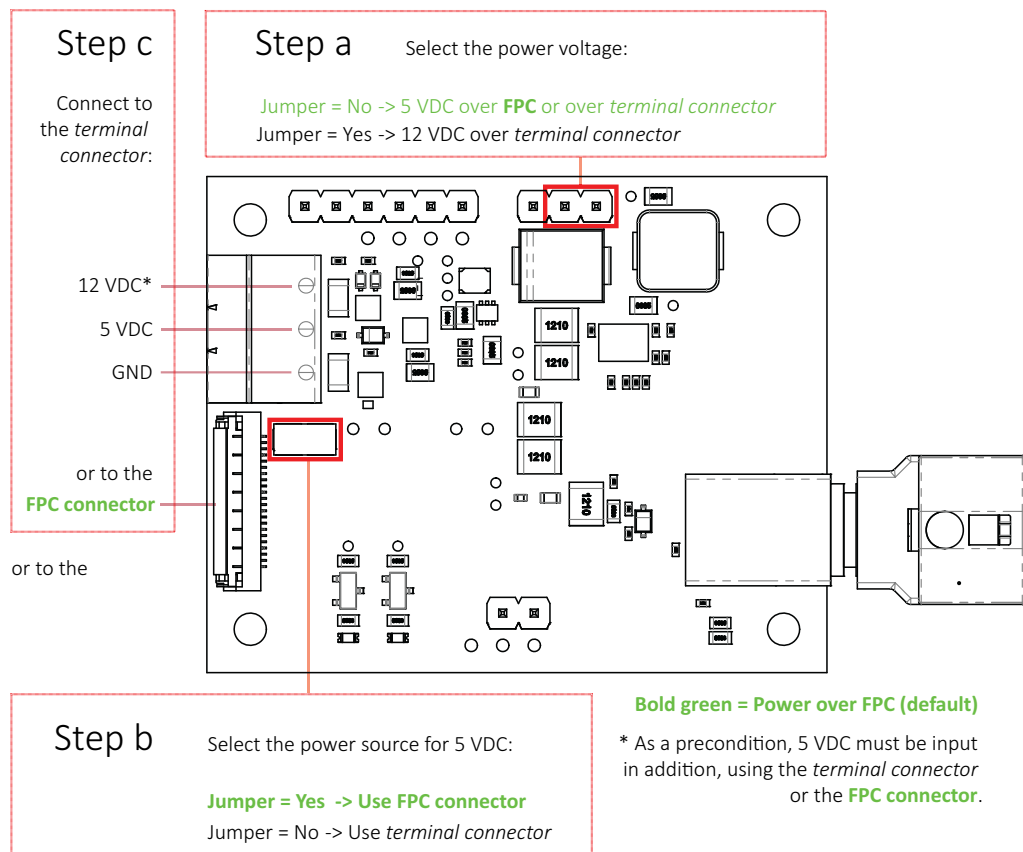

Figure 17: Connections and jumper settings for power supply
2. Set the jumpers for Step a and Step b as shown in Figure 17.
For power over the **terminal power connector**, connect the Phoenix Contact MC 1,5/3-ST-3,5 connector as shown in Figure 17 for Step c.